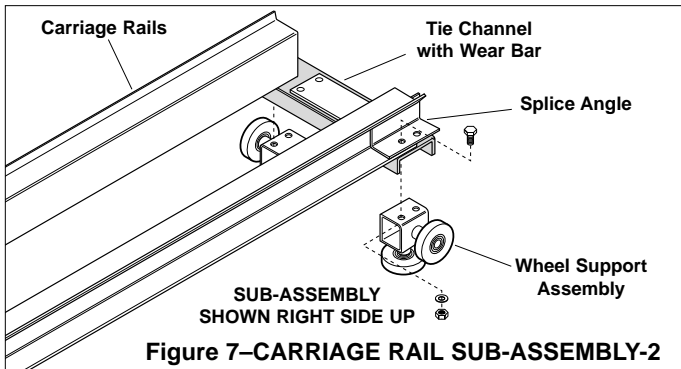

Figure 7-CARRIAGE RAIL SUB-ASSEMBLY-2
3) Turn the first, third, fifth (etc.) rail assemblies over. At each end attach a tie channel, two splice angles and two wheel support assemblies (Fig 7). Check to make sure assemblies are square and flat. Tighten all bolts securely. Return to upright position.